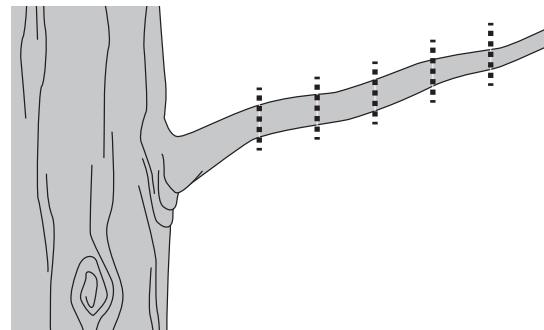

Figure 14
2. To prevent the branch from slivering and buckling, cut the branch off in several pieces. See Figure 14, right.